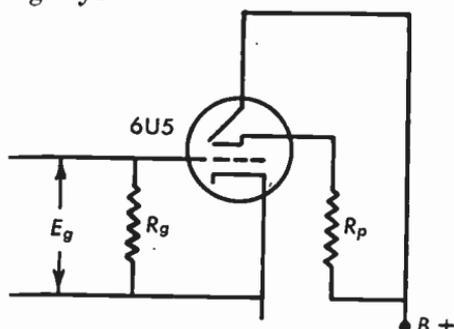

Fig. 8.17 Electron-ray tube indicator.
8.17 In the tuning-eye circuit of Figure 8.17, $R_g = 2$ megohms, $I_p = 190$ microamperes, $R_p = 0.5$ megohm, $B+ = 100$ volts, and $E_g = 0.1$ volt. What is the potential difference between the ray-control electrode and the target?